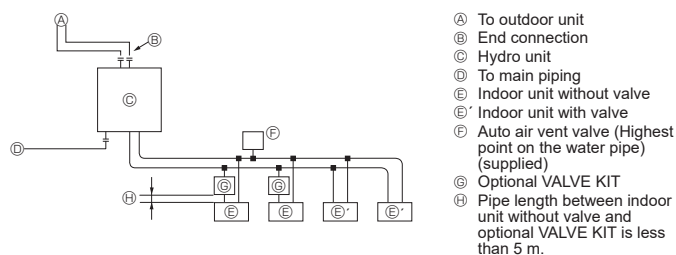

Fig. 4-7
- Please refer to the [Fig. 4-7] when connecting the water supply.